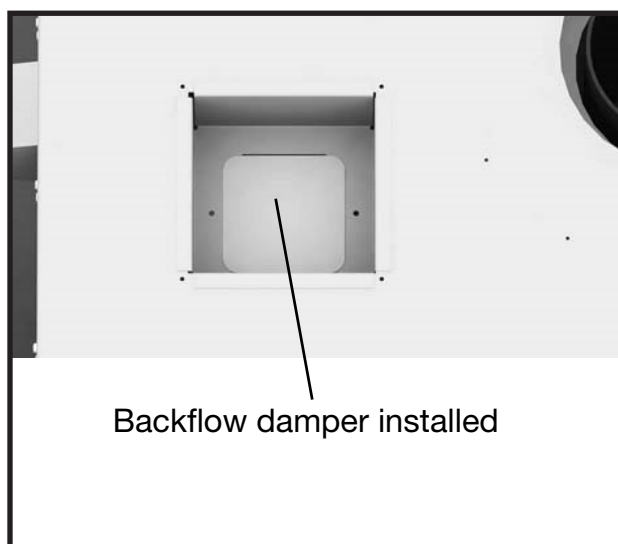

Figure 24: Backflow damper.
3. Place the Backflow Damper into the top of the unit (Figure 24). Ensure that the flap in the assembly is free to move. (Flap should be in the normally closed position with the blower off)